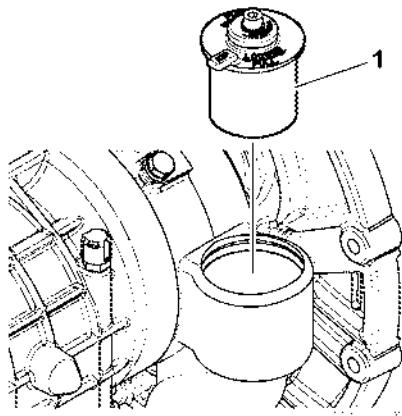

Figure 12
2. Remove the filter assembly (1, Figure 12) from the gearbox.